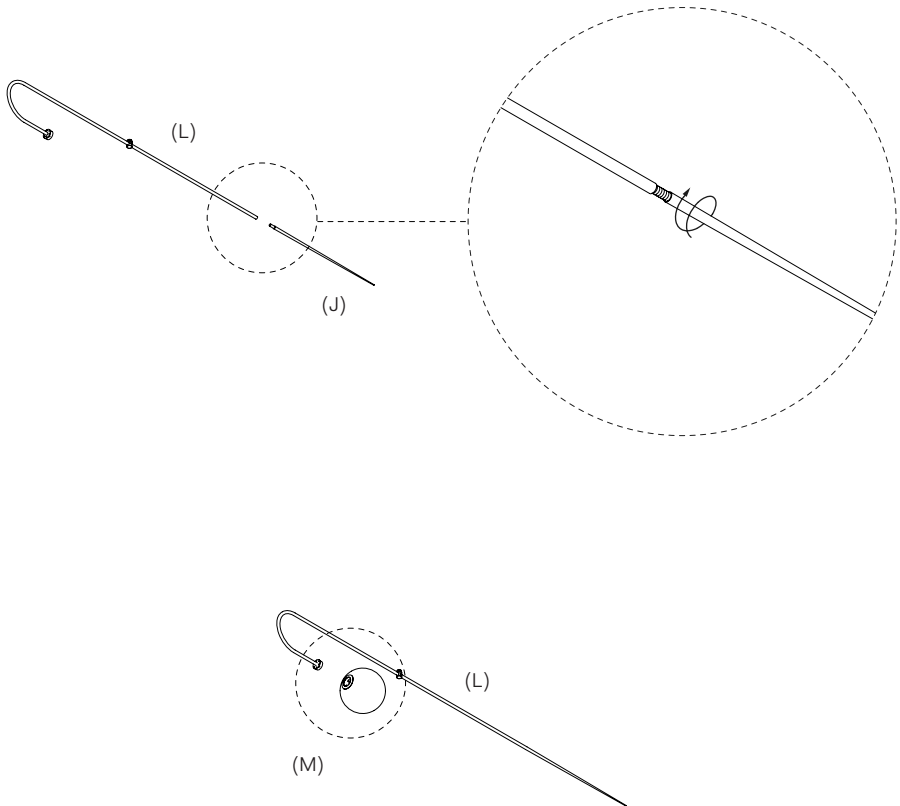
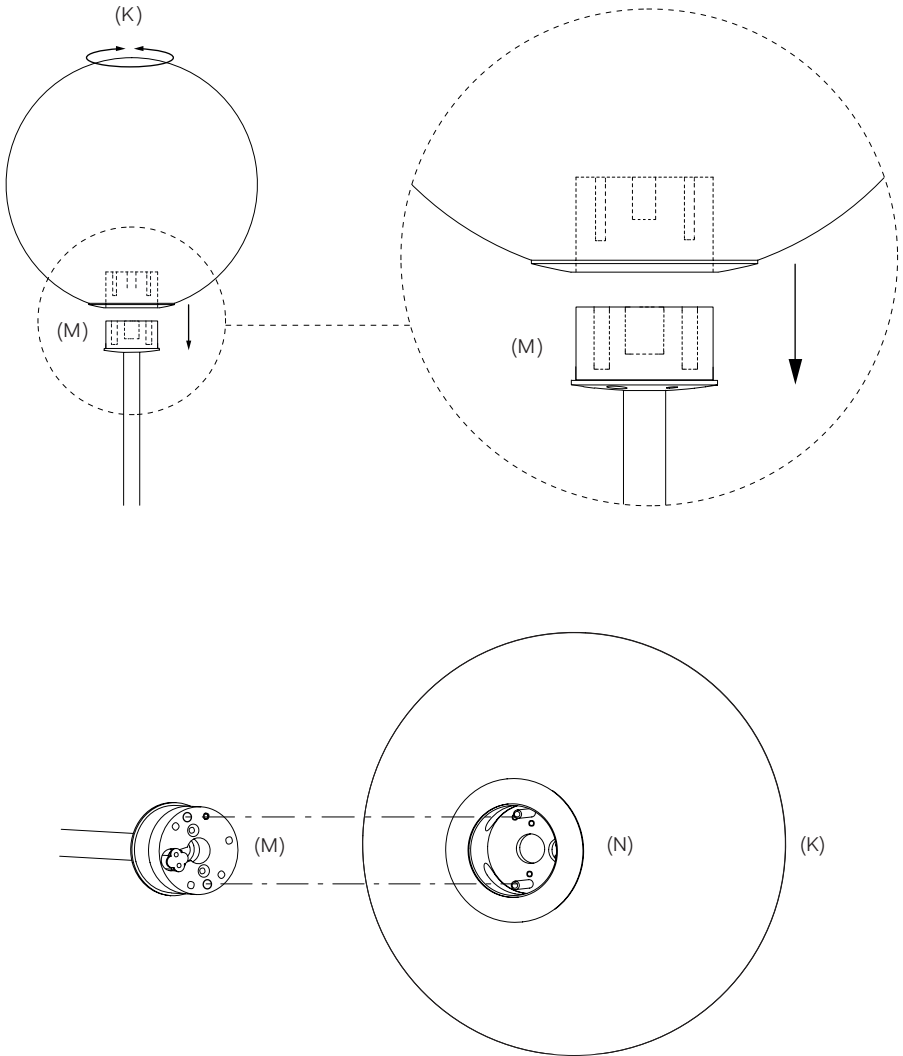

Fig. 13
Fig. 14
Secure the Large Globe (K) with the supplied M2×20 screw and hex key, ensuring that it is tight to keep the connectors flush. See Fig.13 and Fig.14